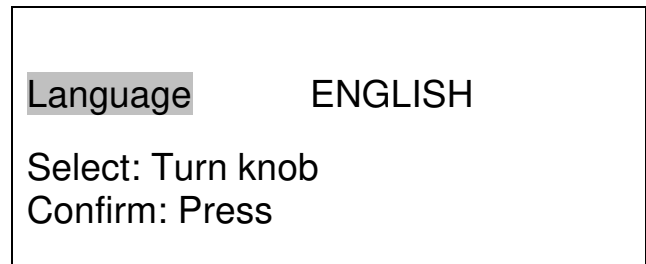

Fig. 29
- The display (fig. 29) now shows the terms in the desired language.